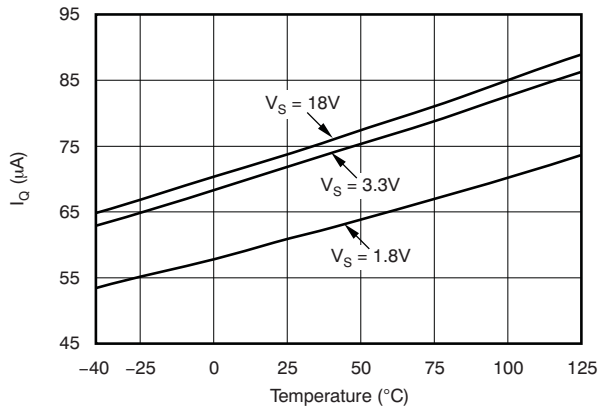

Figure 1.
(1) 100% of production is tested at  $T_A = +85^\circ C$ . Specifications over temperature range are ensured by design.
(2) Shaded cells indicate characteristic performance difference.
(3) See Figure 1 for typical quiescent current.